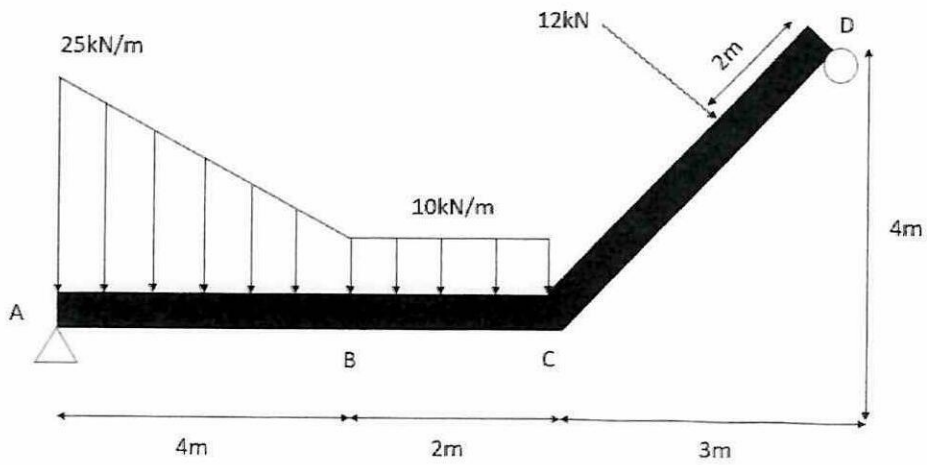

Figure Q1: Simply Supported Beam
- (b) A simply supported beam as shown in **Figure Q1** in **Appendix I** is supported with pin and roller at point A and D. The uniform distributed loads of 25 kN/m and 10kN/m are loaded at points A to B and from point B to C respectively. A point load of 12 kN is reacted 2m from point D.